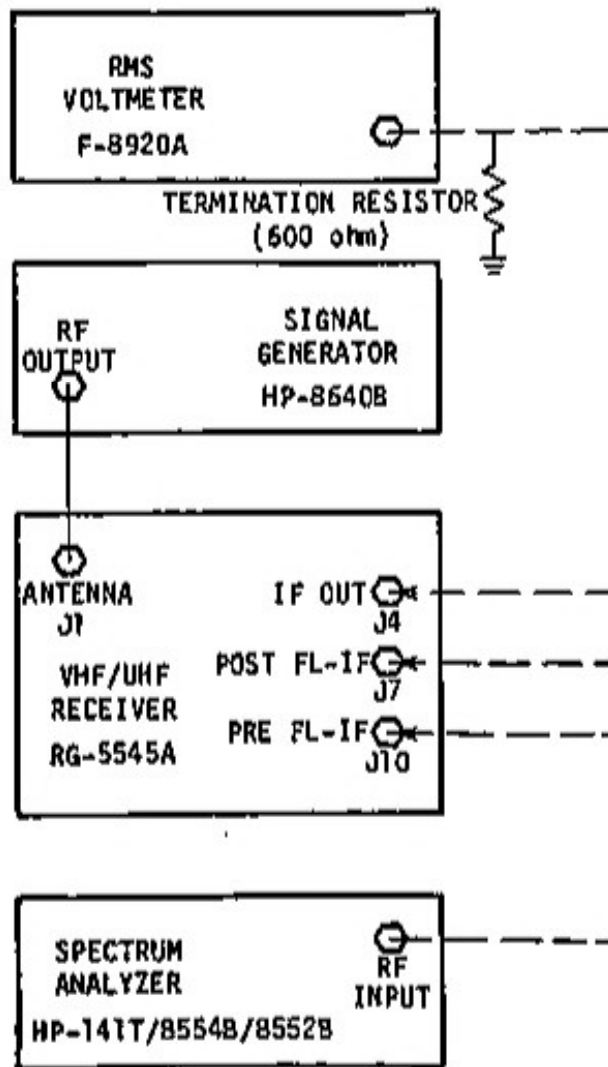

Figure 5-3. IF Output Test
1. Connect spectrum analyzer and signal generator as shown in Figure 5-3 with spectrum analyzer connected to IF OUT connector J4.